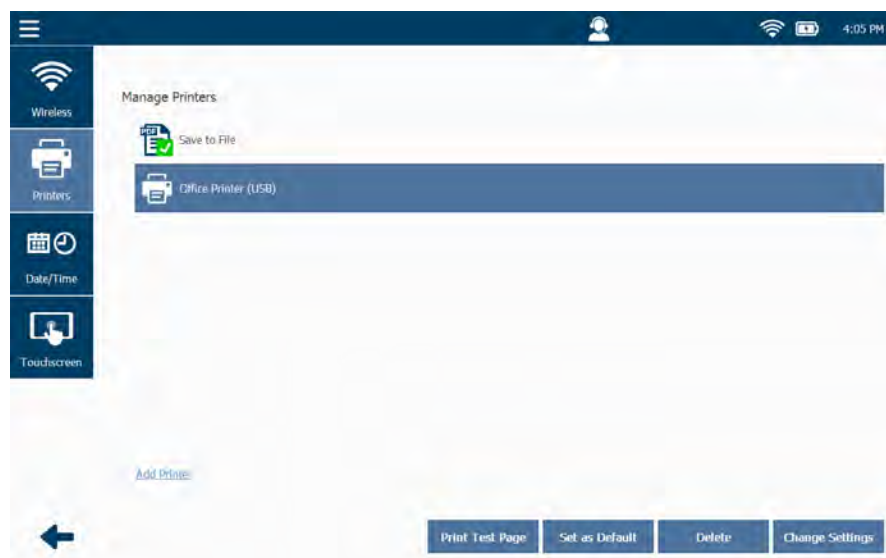

Figure 6.17 *Printer Highlighted*
- 1 Highlight the printer you added (see Figure 6.17).
- 1 Highlight the printer you wish to delete (see Figure 6.17).